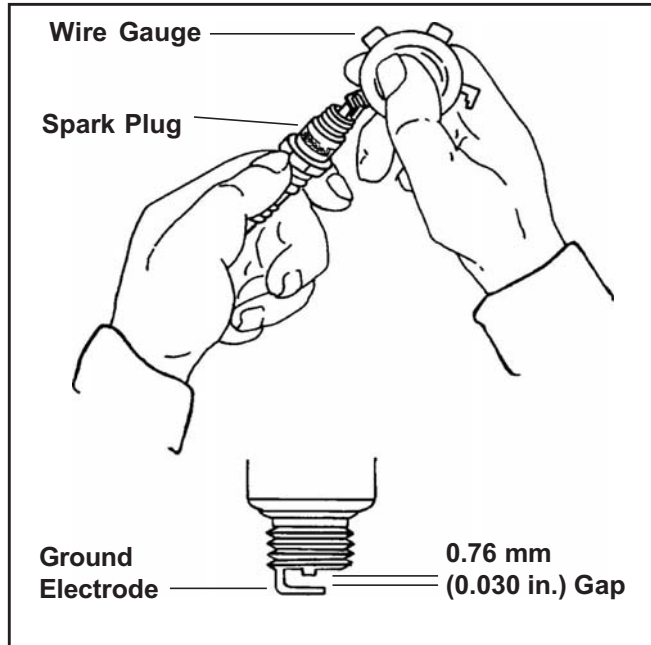

Figure 10. Servicing Spark Plug.
- Check the gap using a wire feeler gauge. Adjust the gap to **0.76 mm (0.030 in.)** by carefully bending the ground electrode. See Figure 10.